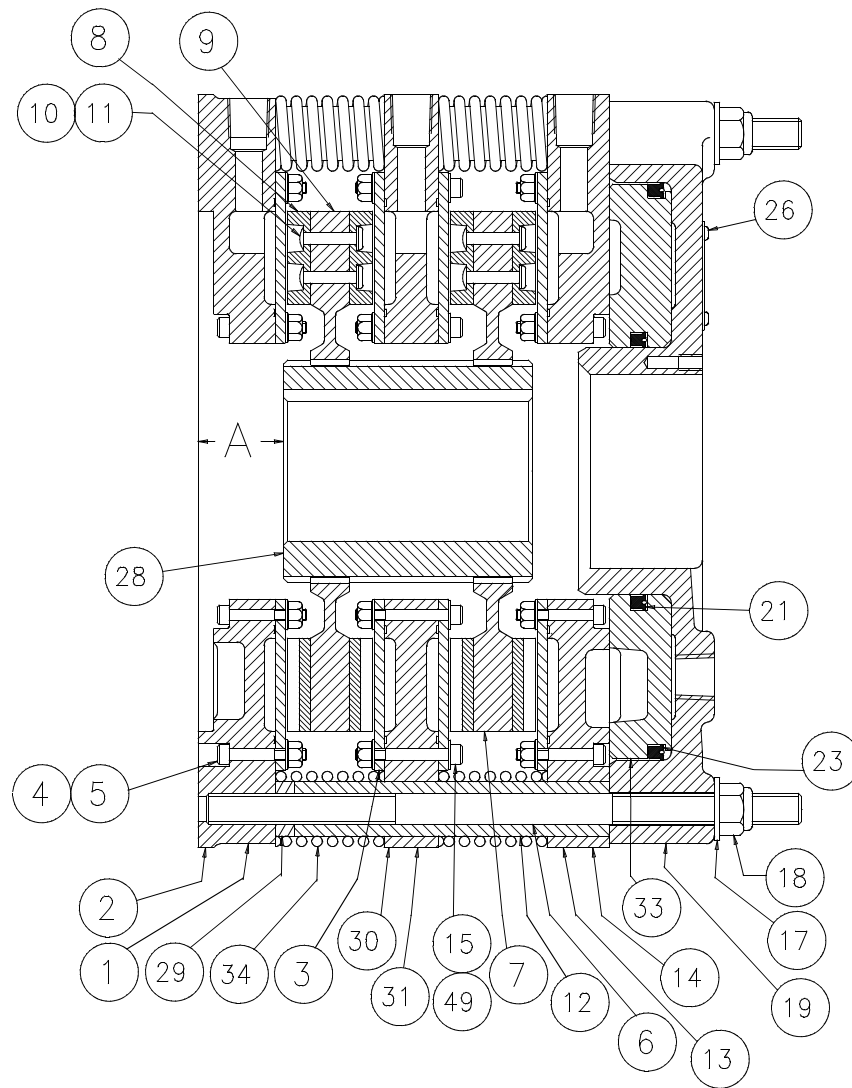

Figure 1
- 1.2.1 Referring to Figure 1, the gear (28) is mounted on the shaft which is to be stopped and the tensioner assembly is attached to the machine frame or a reaction bracket.
2.1.4 Refer to Table 3 for the setup dimension between the tensioner mounting surface and the end of the gear (dimension "A" on Figure 1). Gears should be positioned to ensure that - when the tensioner is mounted - the disc splines will not overhang the end of the gear when components are in both new and worn conditions. The gear is typically bored and keyed for a resulting Class FN2S interference fit for inch shafting and ISO System S7h6 for metric shafting. Contact Airflex Application Engineering for specific recommendations.
- 2.2.4 Heat the gear uniformly to 250°F (121°C) to expand the bore and ease assembly. Press the gear onto the shaft, making sure that the dimension between the gear and the tensioner mounting surface ("A") is maintained. See Figure 1 and Table 3. Allow the gear to cool.